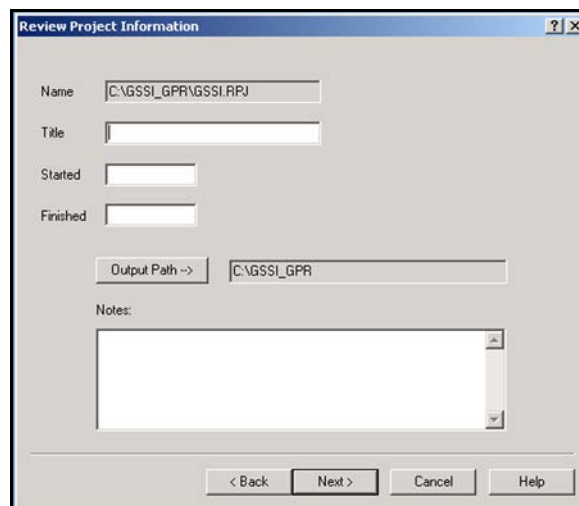

Figure 22: Project Information dialog box.
- Click Next >. This will open a new window with the heading Review Project Information (Figure 22).